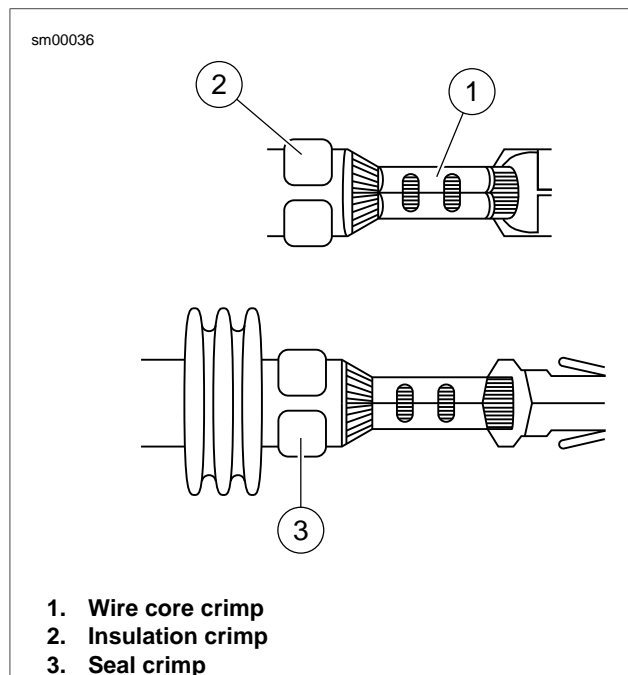

Figure A-45. Metri-Pack Connector: Inspect Core and Insulation/Seal Crimps
1. See Figure A-45. Identify the correct die for the insulation/seal crimp (2).
1. See Figure A-45. Inspect the wire core crimp (1). The tails should be folded in on the wire core without any distortion or excess wire strands.
2. Inspect the insulation (2) or seal (3) crimp. The tails of the terminal should be wrapped around the insulation without distortion.